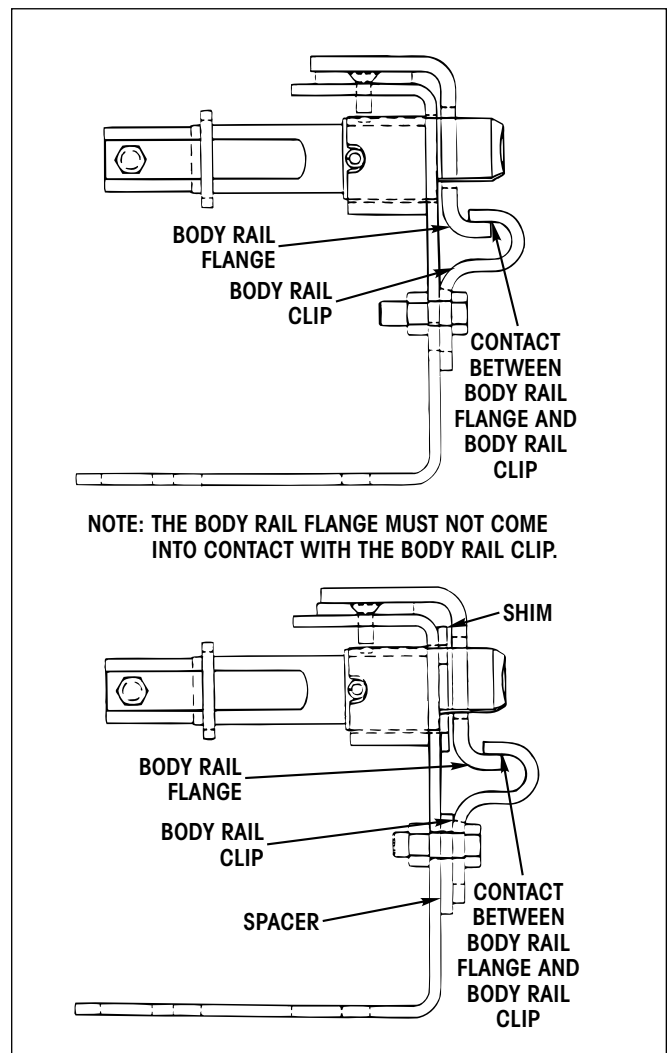

Figure 36. Incorrect body rail clip installation
- Inspect the condition of the slider box's slide pads (Figure 36). In order to achieve optimum slide performance, it is important that all slide pad fastener heads be located below the top surface of the pads.